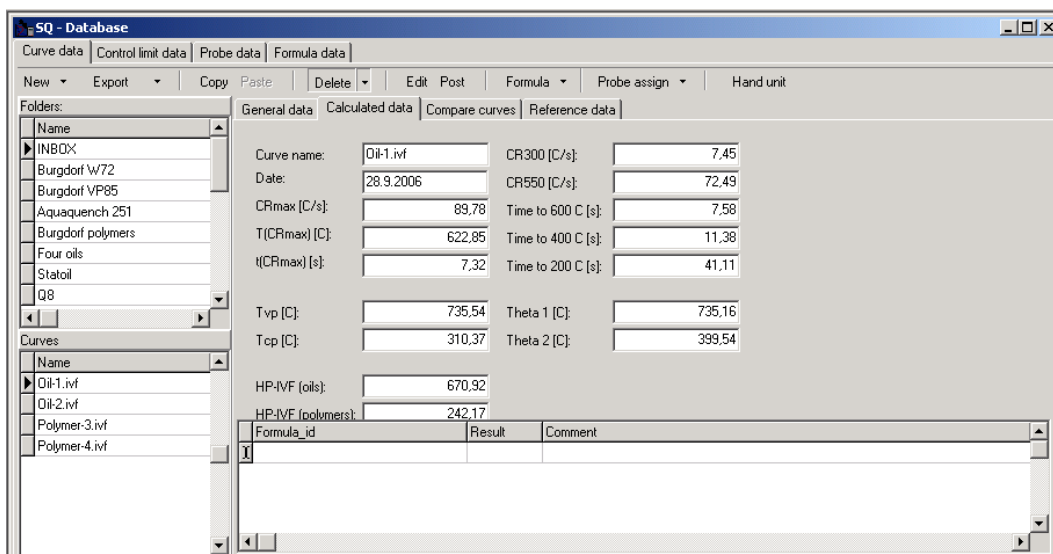

Fig. 3.3 Characteristic data that are calculated automatically for each curve.
- **Calculated data**, a number of characteristics, which are calculated automatically. See Figure 3.3.